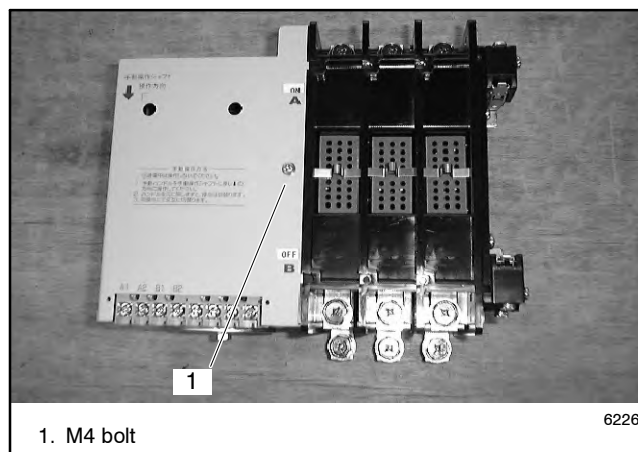

Figure 7-1 Removing Cover
1. Loosen the M4 bolt and remove the cover from the mechanical unit. See Figure 7-1.